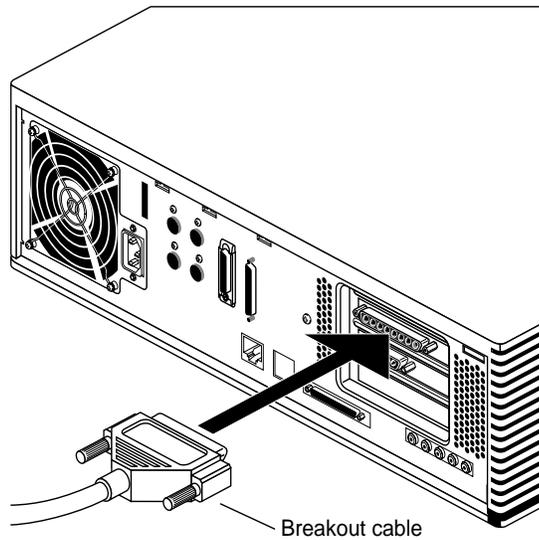

Figure 2-35 Attaching the Indigo² Video Breakout Cable
3. Attach the Indigo² IMPACT Video breakout cable to the connectors on the video board, as shown in Figure 2-35.